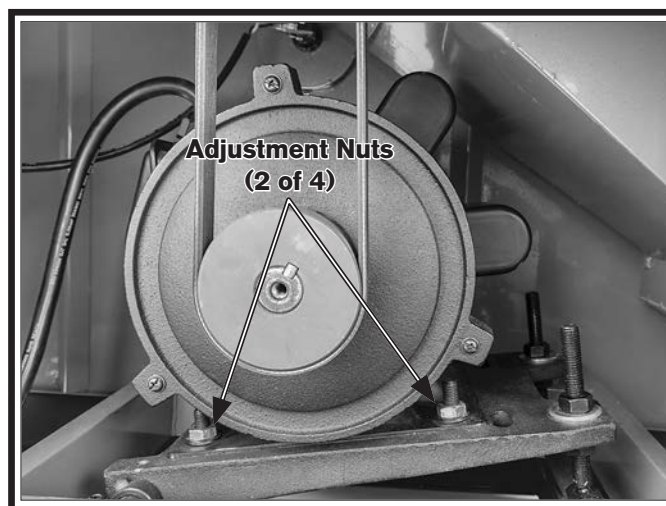

Figure 64. Motor mount adjustment nuts.
4. Loosen motor mount adjustment nuts shown in **Figure 64**.